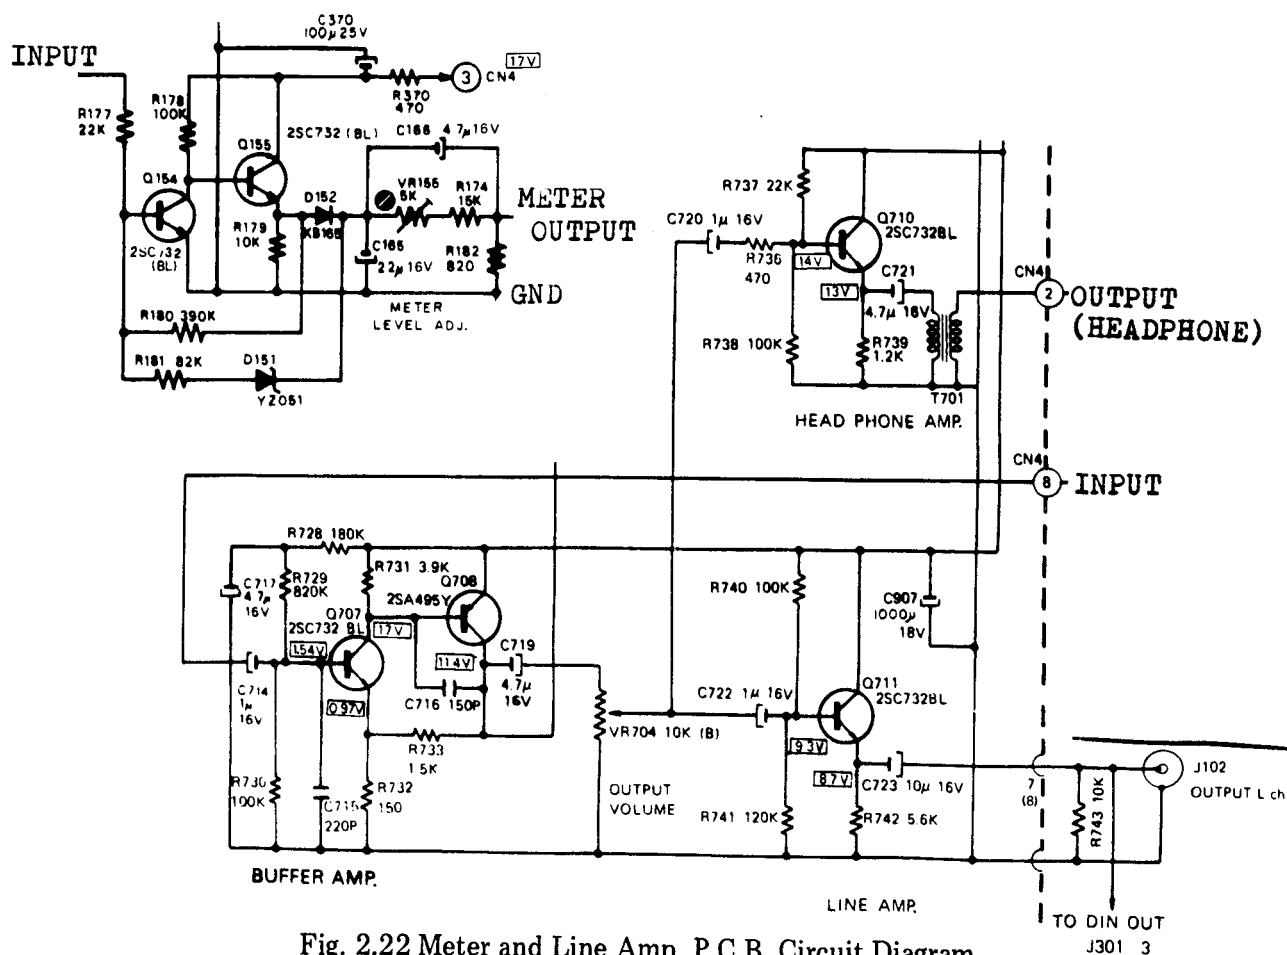

Fig. 2.22 Meter and Line Amp. P.C.B. Circuit Diagram
Fig. 2.22 shows the level meter amplifier circuit and the line output amplifier. Terminal CN4-4(5) is the input of the level meter amplifier.